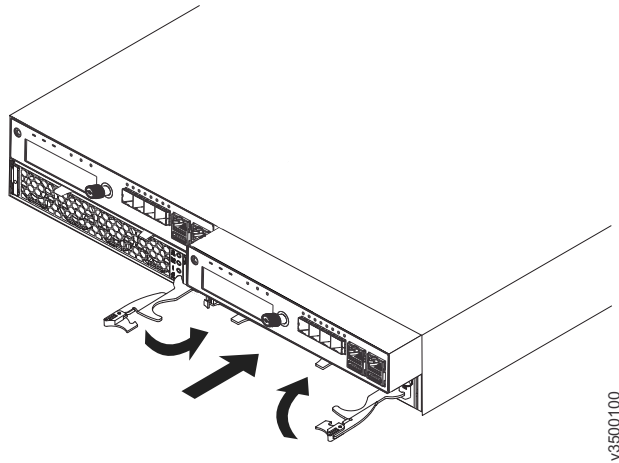

Figure 17. Installing a node canister
2. Turn the canister over and install it in the control enclosure as shown in Figure 17.